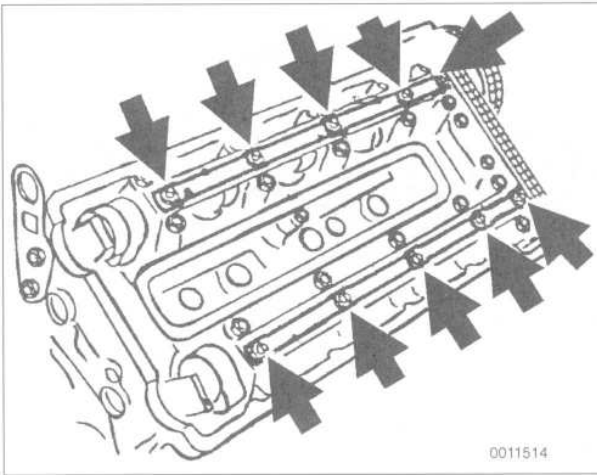

Fig. 32. Camshaft oil pipe mounting nuts (arrows). Remove pipes from both cylinder heads.
5. Remove camshaft oil pipes from top of left and right cylinder heads. See Fig. 32.